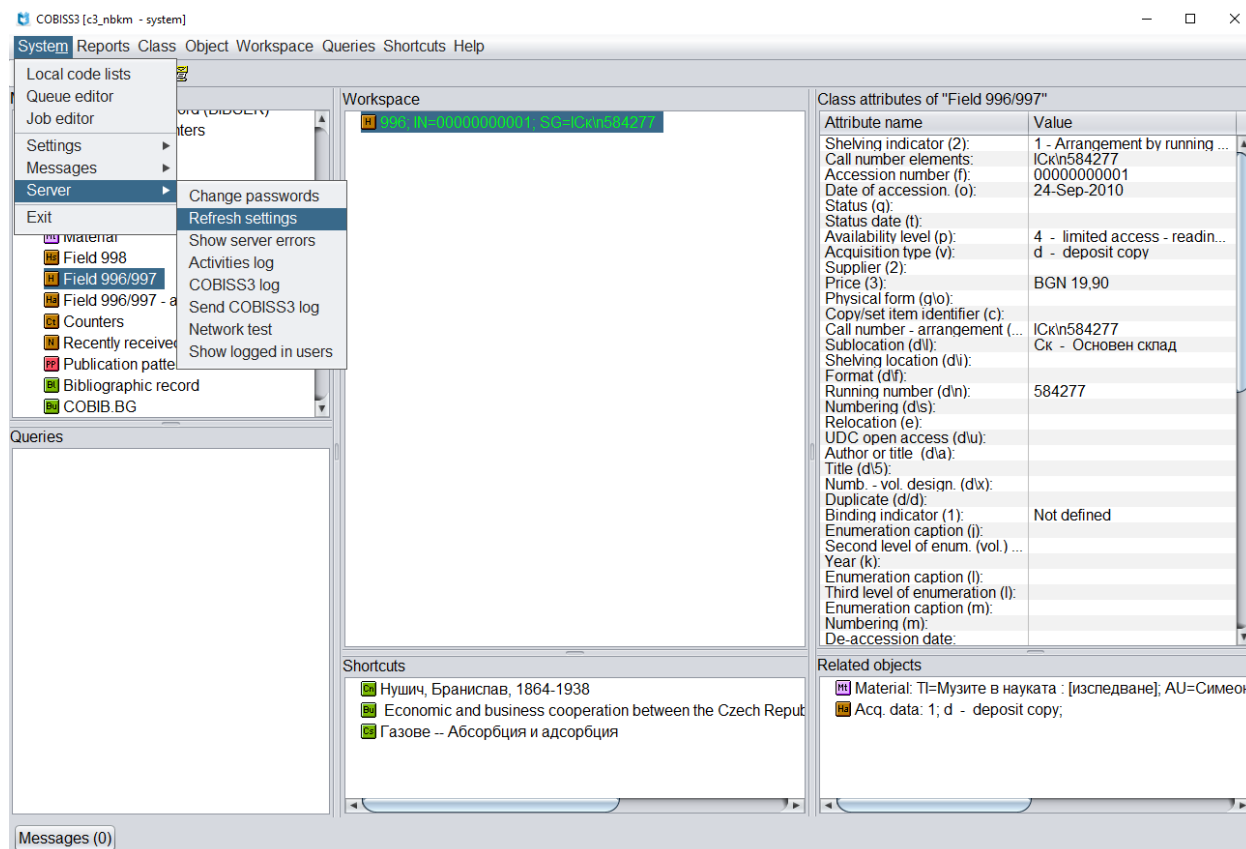

Figure 10: Refresh settings in the COBISS3 user interface
- Figure 10: Refresh settings in the COBISS3 user interface6
Once you define all the settings, confirm each choice by clicking the **OK** button. At the end, select **Refresh settings** in the **System** menu (see Figure 10). If this option is not available, you can refresh the new settings by signing out and back into the COBISS3 software.